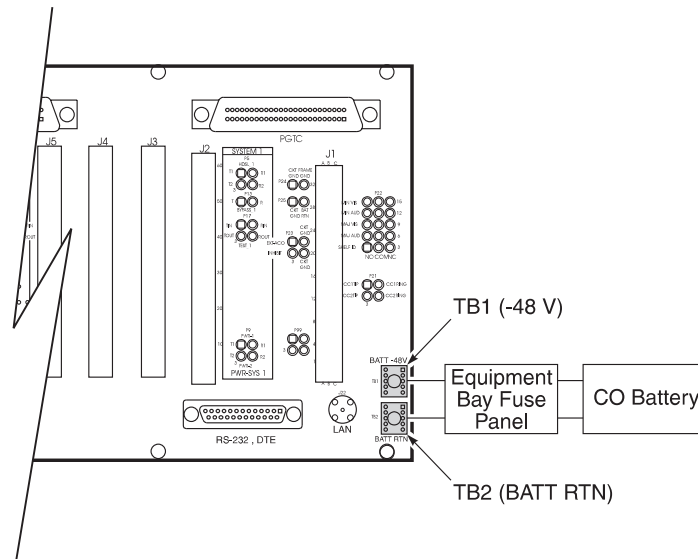

Figure 4. Connecting the CO Battery for the List 1 COT Shelf
8.1.2 To connect the CO battery for the List 1 COT Shelf (Figure 4):